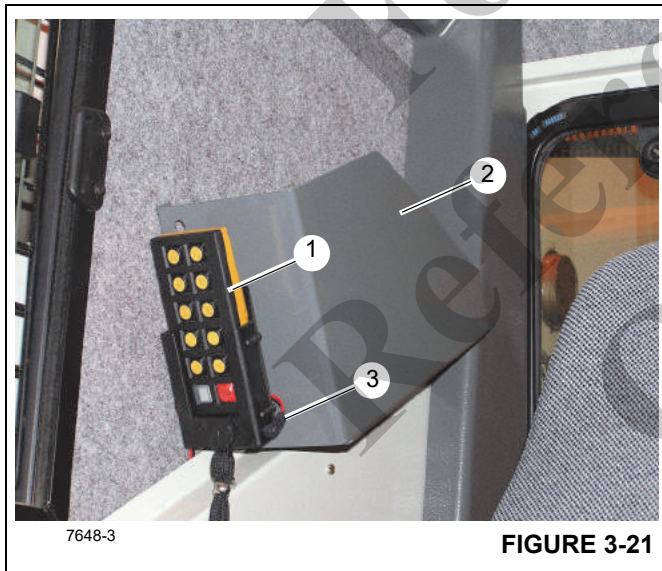
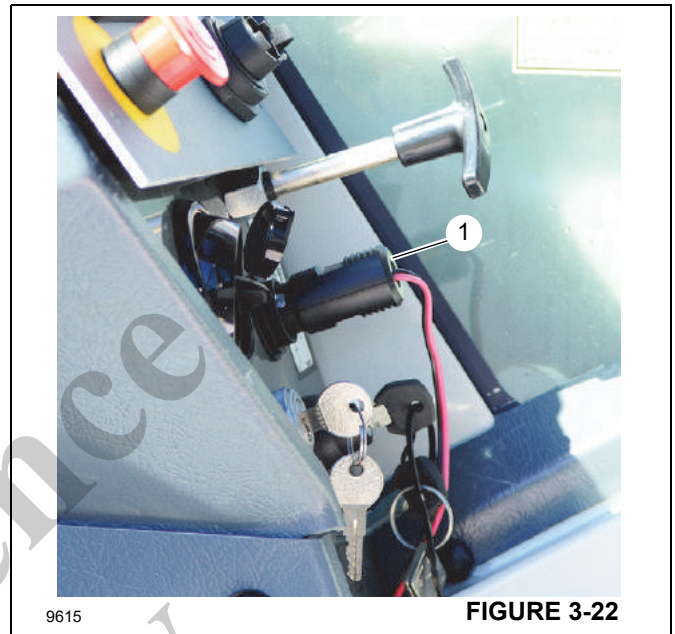

FIGURE 3-21
FIGURE 3-22
The standard Remote Control (1, Figure 3-21) is a palm size remote control and is shipped with each crane as standard equipment. This remote control has limited functions as described in the following information; it does not allow full remote control of the crane.
The standard remote control (1, Figure 3-21) operates the main hoist up/down, aux hoist up/down and single front outrigger SFO (if equipped).
The standard Remote (1, Figure 3-21) and its stowage bracket are secured to the load chart binder bracket (2).
When the standard Remote Control (1) is in the stowed position as shown in Figure 3-21 the remote control charging cable (3, Figure 3-21) should be plugged into the remote control stow bracket and the other end into the 12V receptacle (1, Figure 3-22) on the cab control panel. This will keep the two AA rechargeable batteries used to power the Remote Control charged.